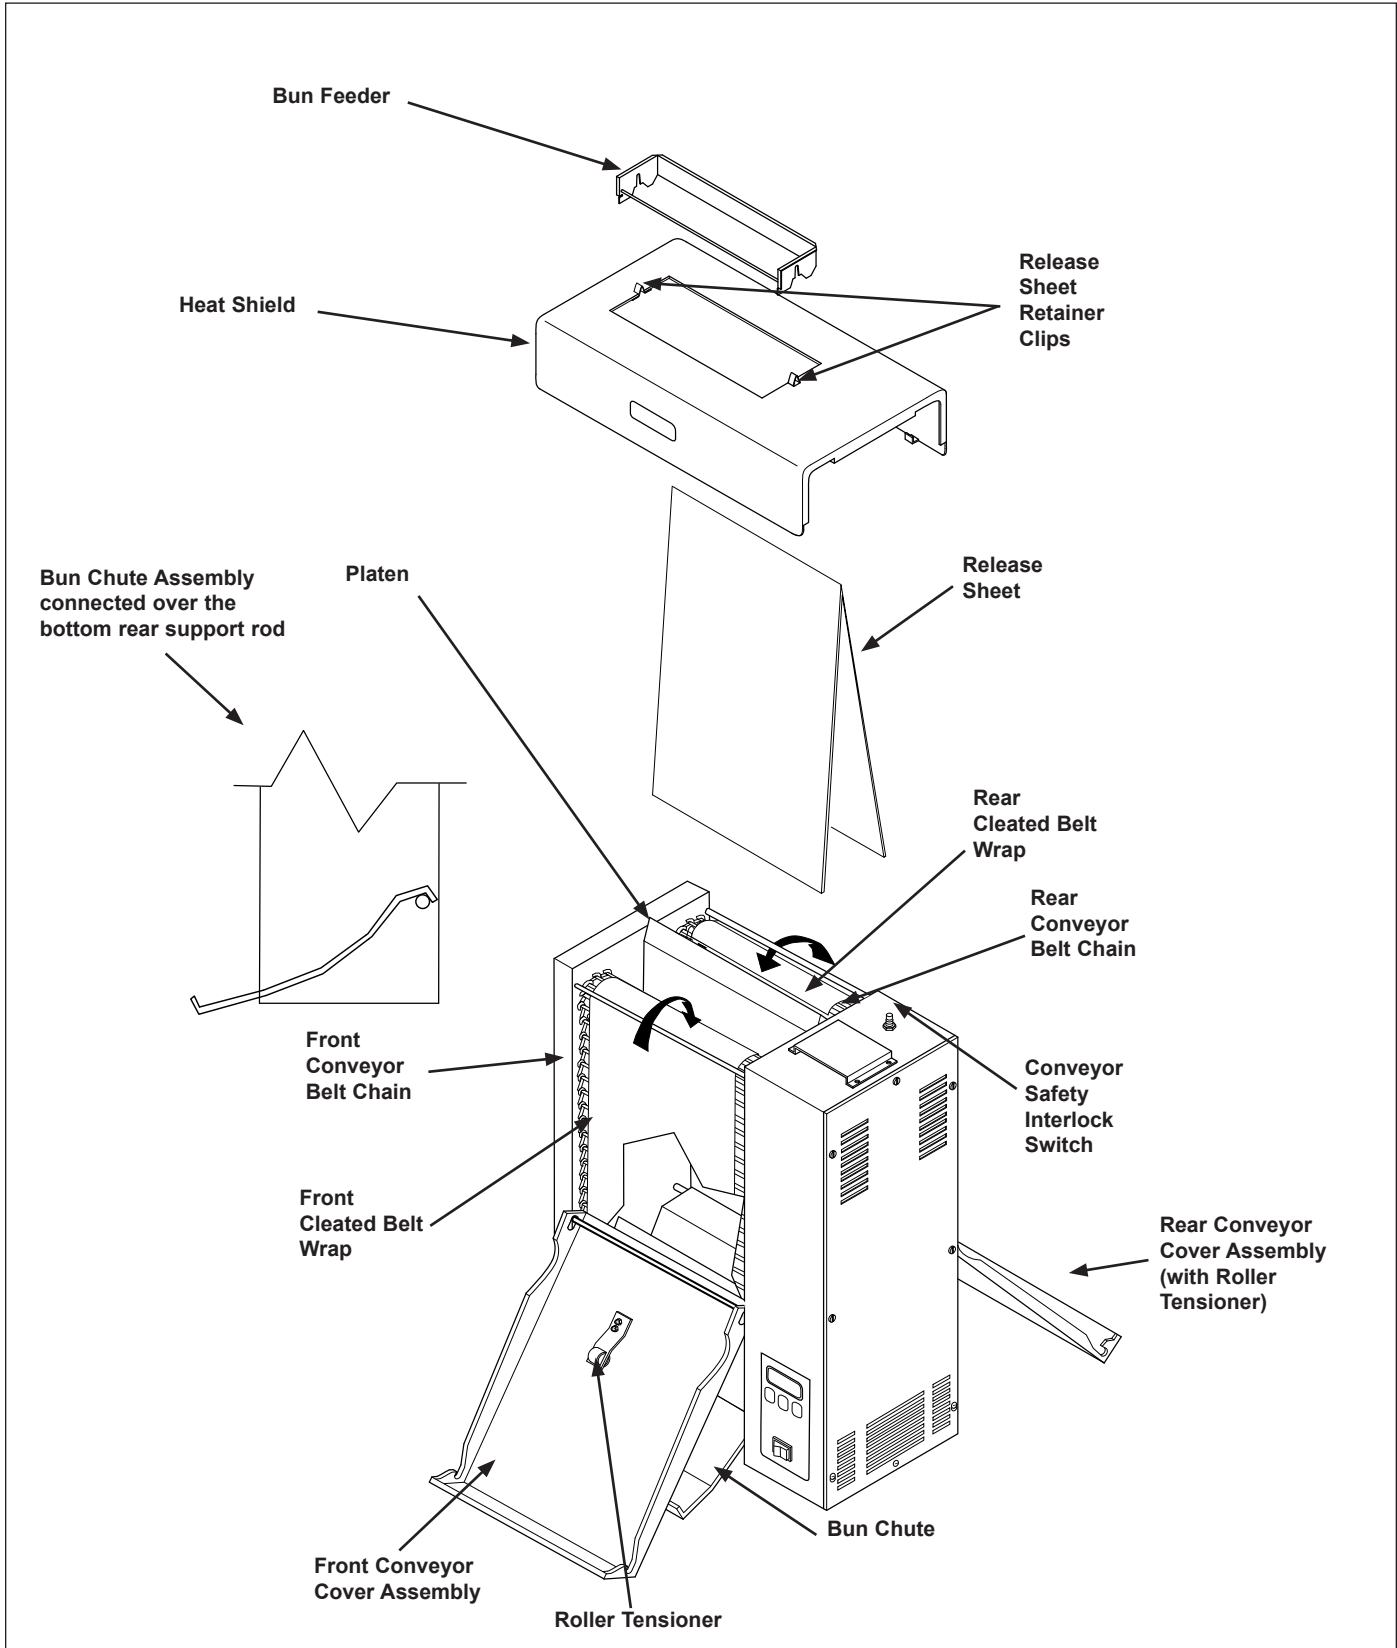

Figure 1. VCT-2000 Toaster
- Bun Chute (Figure 1)
- Bun Feeder (Figure 1)
- Two Release Sheets (Figure 1)
NOTE: The factory has pre-installed a Release Sheet over the Platen (Figure 1). Verify that it is properly in place before proceeding.
1. Remove the Bun Chute and Bun Feeder from the box and install (Figure 1).
IMPORTANT: Make sure Heat Shield is activating the Conveyor Safety Interlock Switch (Figure 1). The conveyors will not rotate unless the Heat Shield is in place and switch is activated.
2. Use heat-resistant gloves to remove the Bun Feeder, Heat Shield, and Bun Chute (Figure 1). Wipe them with a damp sanitized towel and allow them to air dry.